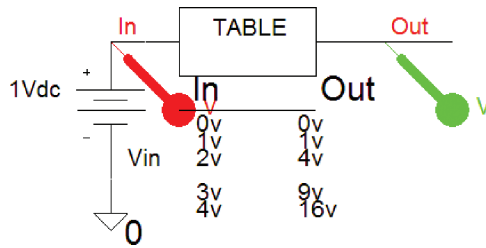

FIGURE 7.41: The Table part
- (4) Obtain the characteristics for the SCR and TRIAC devices. Download a model for the unijunction transistor (UJT). This is a three-terminal device with different characteristics to the conventional bipolar transistor. Construct a UJT circuit symbol, junction schematic, and plot the output characteristics showing the negative resistance region.
- (5) Investigate the **TABLE** part in Fig. 7.41. From the **Analysis Setup/DC Sweep/Sweep Variable /Voltage Source, Name = vin**. The sweep parameters: **Start Value: 0, End Value 10V**, and **Increment 1**.